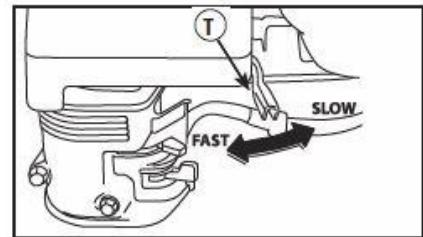

Fig. 13
7. Move throttle lever (T) to "Fast" position, shown as a rabbit. (See Fig. 13)
2. Move throttle lever (T) to SLOW position, then STOP position. (See *Fig. 13*)